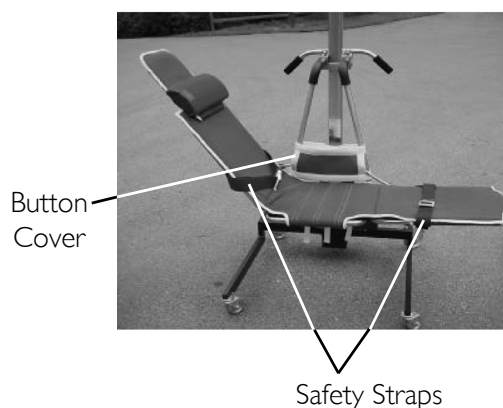

FIGURE 6.1 Attaching the Stretcher Cover
NOTE: For this procedure, refer to FIGURE 6.1.
1. Press and hold the buttons on the stretcher frame (Detail “A” of FIGURE 6.1).